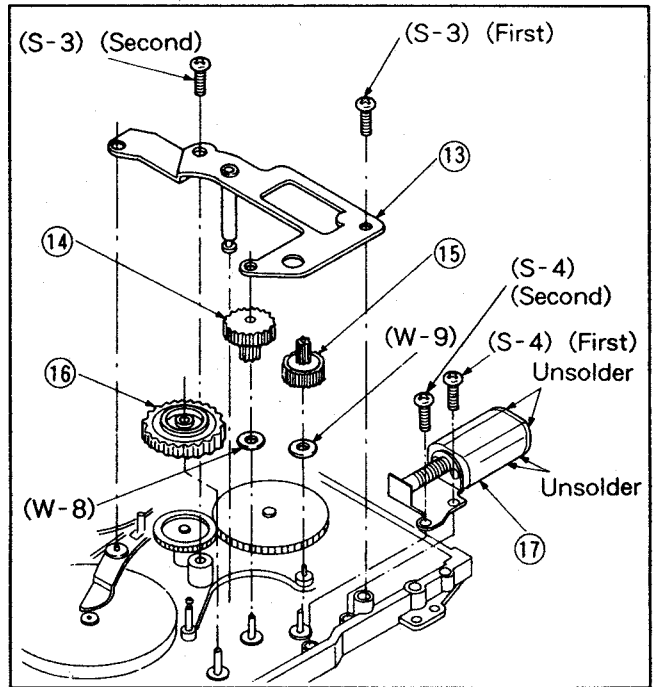

Fig. M8
13) Remove pulley plate unit. See Fig. M8.
- 27) Reinstall loading motor unit. Tighten the screws in the order shown in Fig.M8.